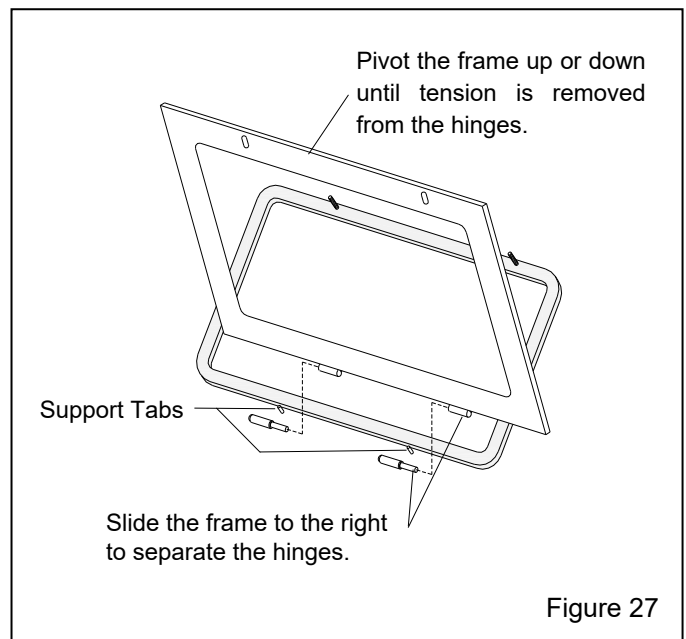

Figure 27
## 7.6 Window-Frame Removal – Figure 27
**7.6.4** To remove, slide the frame to the right. The hinges separate, as shown in Figure 27.